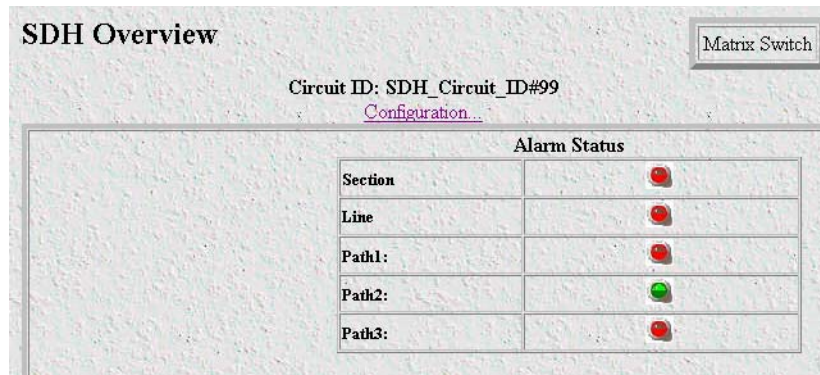

Figure 36. SDH Overview web management page
1. On the *6511RC Configuration Menu* (see figure 27 on page 48), click the *SDH* hyperlink to display the *SDH Overview* page (see figure 36)